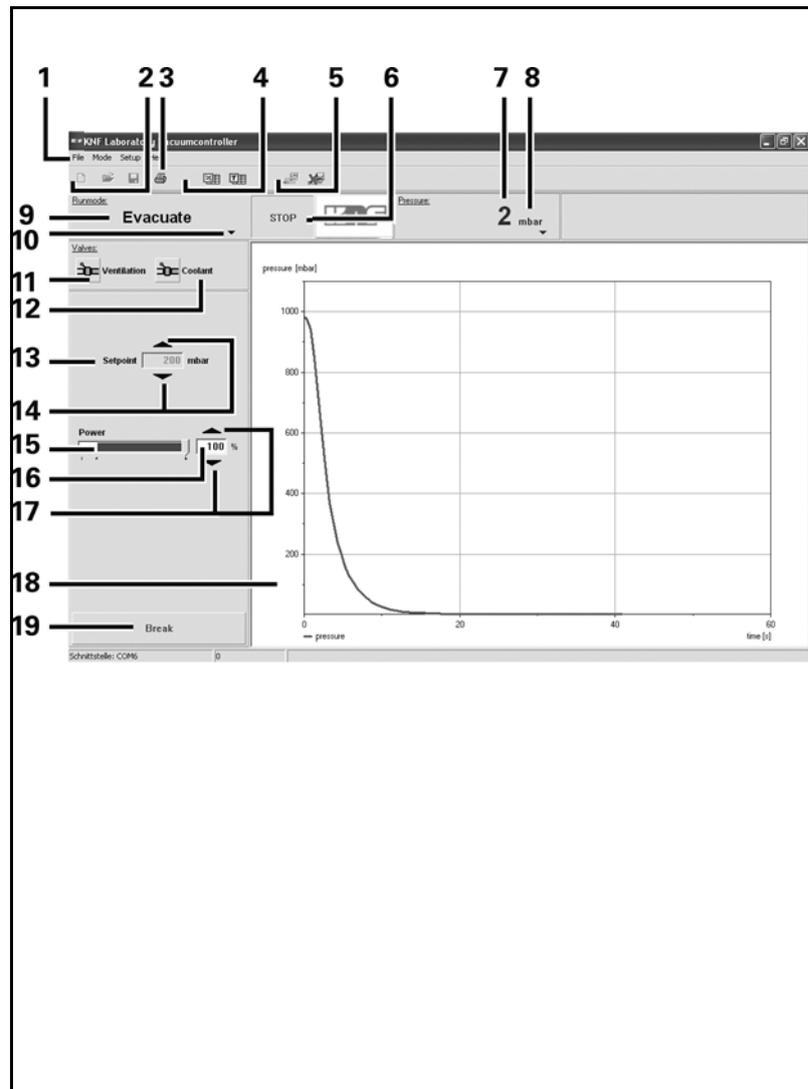

Fig. 1 : Example of software interface showing *Evacuate* operating mode
Fig. 1 shows an example of the software interface.
Pressure unit menu (Fig. 1/8, page 1)
- Chart: Operating mode menu (Fig. 1/10, page 1)
→ Press *START/STOP* button (Fig. 1/6, page 1)
→ Press *ventilation valve* button (Fig. 1/11, page 1).
→ Press *coolant valve* button (Fig. 1/12, page 1)
→ Adjust the pump capacity with the slider (Fig. 1/15, page 1), button (17) or by keyboard entry in the display field (16).
→ Adjust setpoint pressure with the *Increase/reduce setpoint pressure* button (Fig. 1/14, page 1) or by keyboard entry in the display field (13).